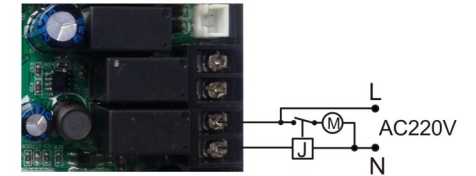

Figure 10
G. Power supply greater than 5A water pump wiring as figure 10 shows :